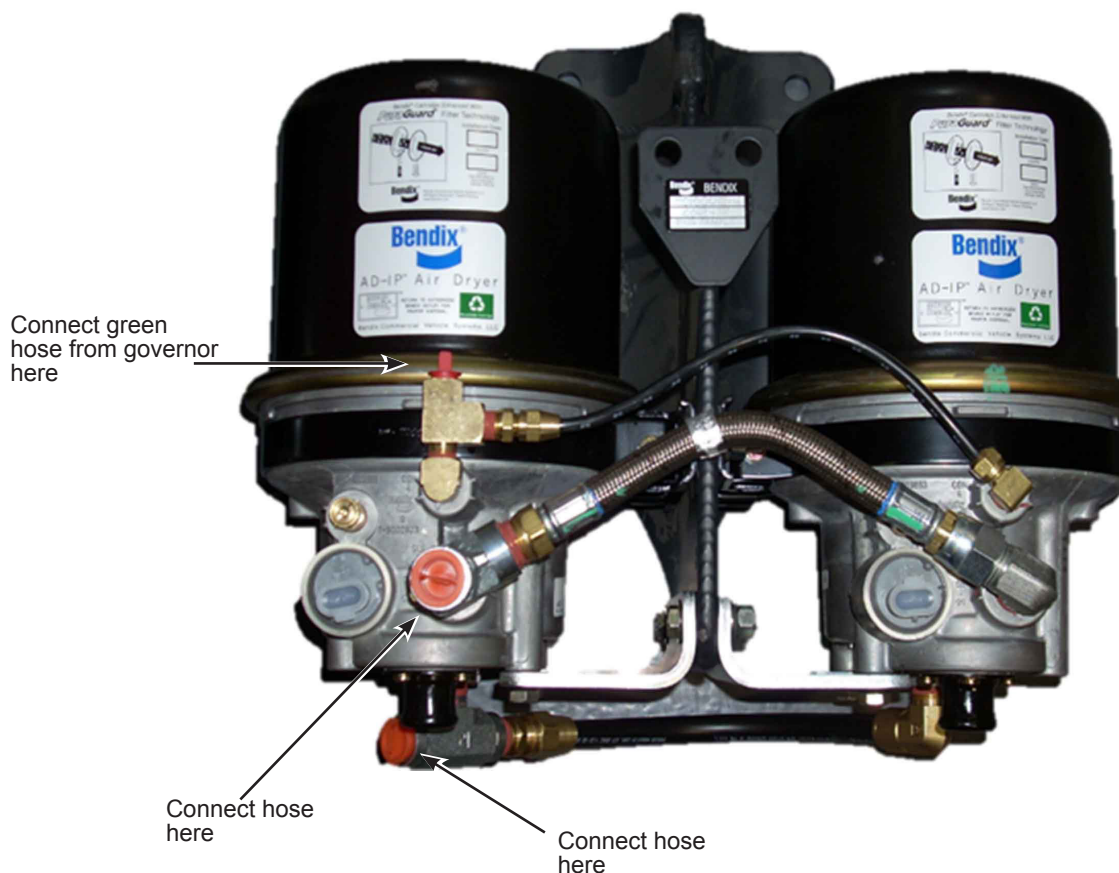

Figure 6 - New Tandem Air Dryer
1.12. Connect the two green hoses. See Figure 6.
- 1.13. Connect the green hose from the governor to the tandem air dryer. See Figure 6 .